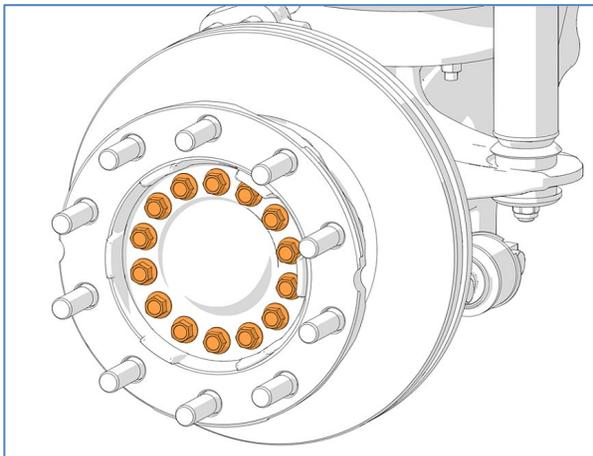

Figure 9
6. Loosen but do not remove the hub flange cap screws (Figure 9).